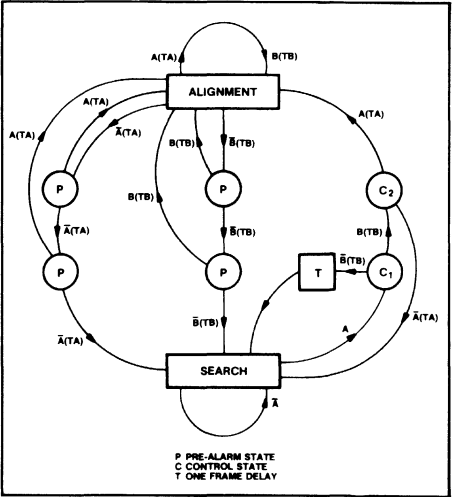

Fig.3 Frame alignment procedure
Frame alignment is described by the flow chart of Figure 3 where the A and B words are defined.
As already outlined in Fig.3. Three consecutive words A(TA) or B(TB) set an R-S flip-flop. This condition can also be forced by the external signal MIR.